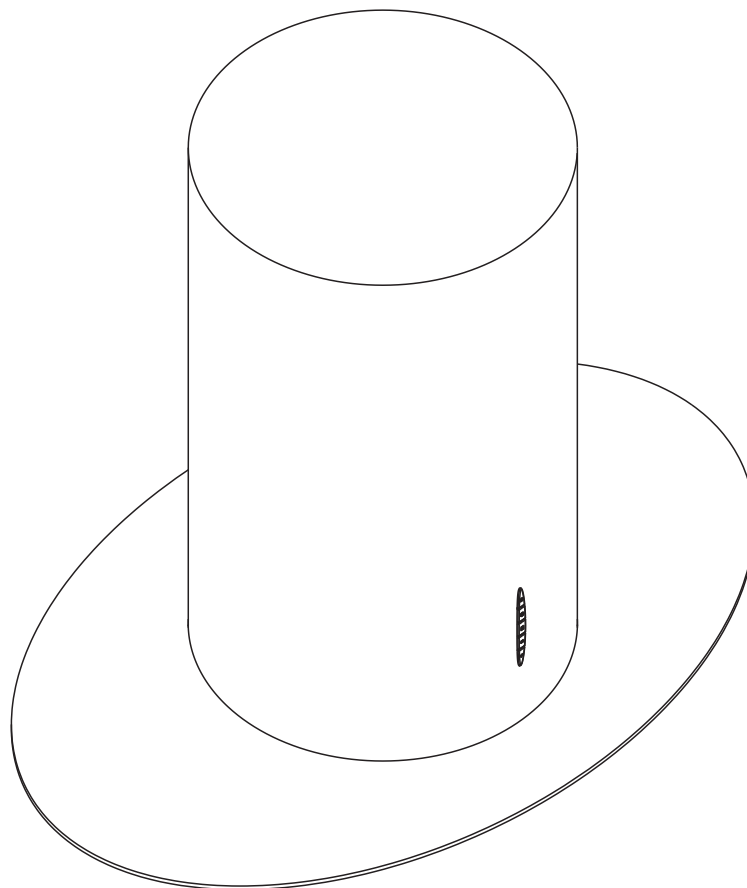

FIG. 1
- 8) Fasten the halogen support (Fig. 4/H) to the Trellis using the 4 M6 screws (Fig. 4/O), take care that the halogen spots (Fig. 1) are turned to the opposite of you. Complete electrical connection of the halogen spots. If your hood is supplied with an glass shield (Fig. 4/P) fit the glass shield onto the halogen support and take care that the gap is fitted into the lock.
### Grease filter (Fig.1)